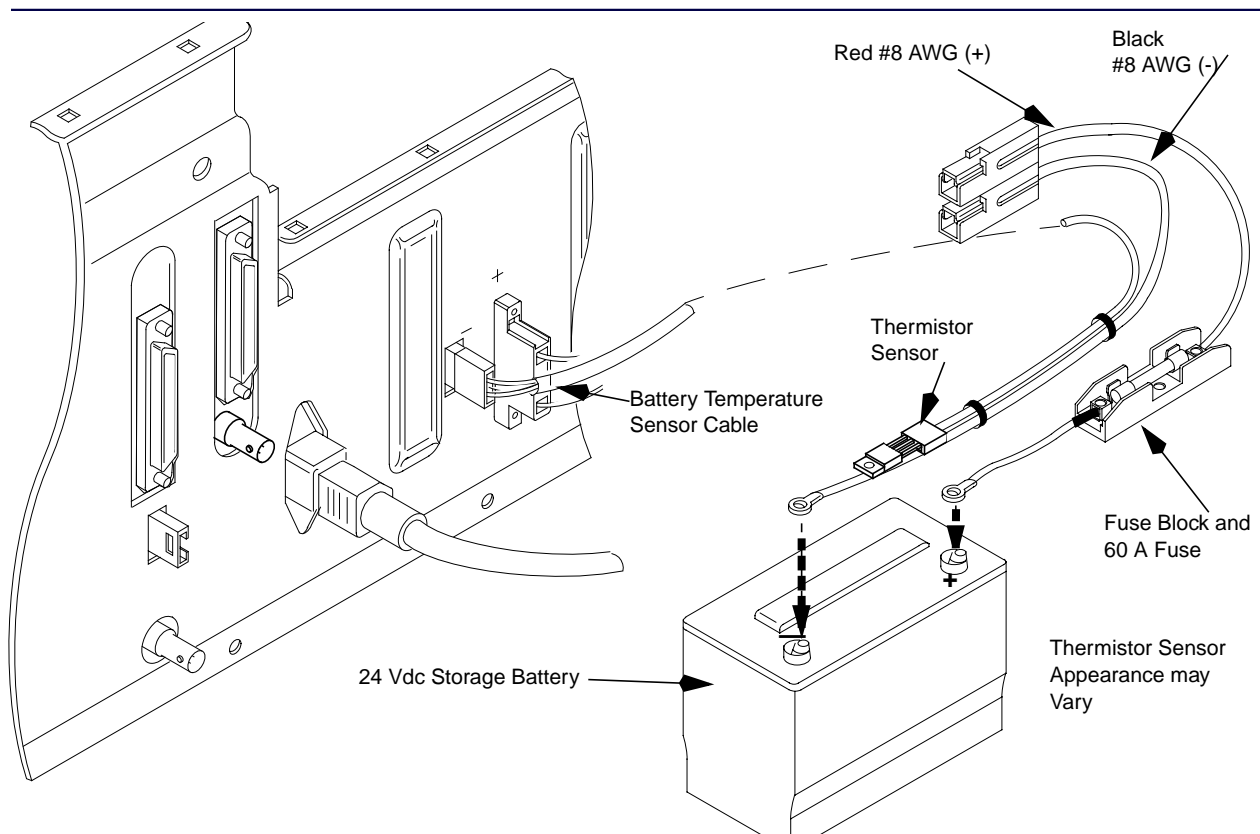

Figure 5-11: Battery Temperature Sensor
1. Connect the wire with the thermistor sensor (black wire) to the negative pole of a single battery or the first battery in the battery deck (see Figure 5-11).